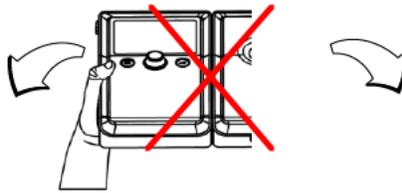

Fig. 4-4
- Do not move the connected unit upwards or downwards while pulling the devices apart (see Fig.4-4). It could cause damage to the devices.